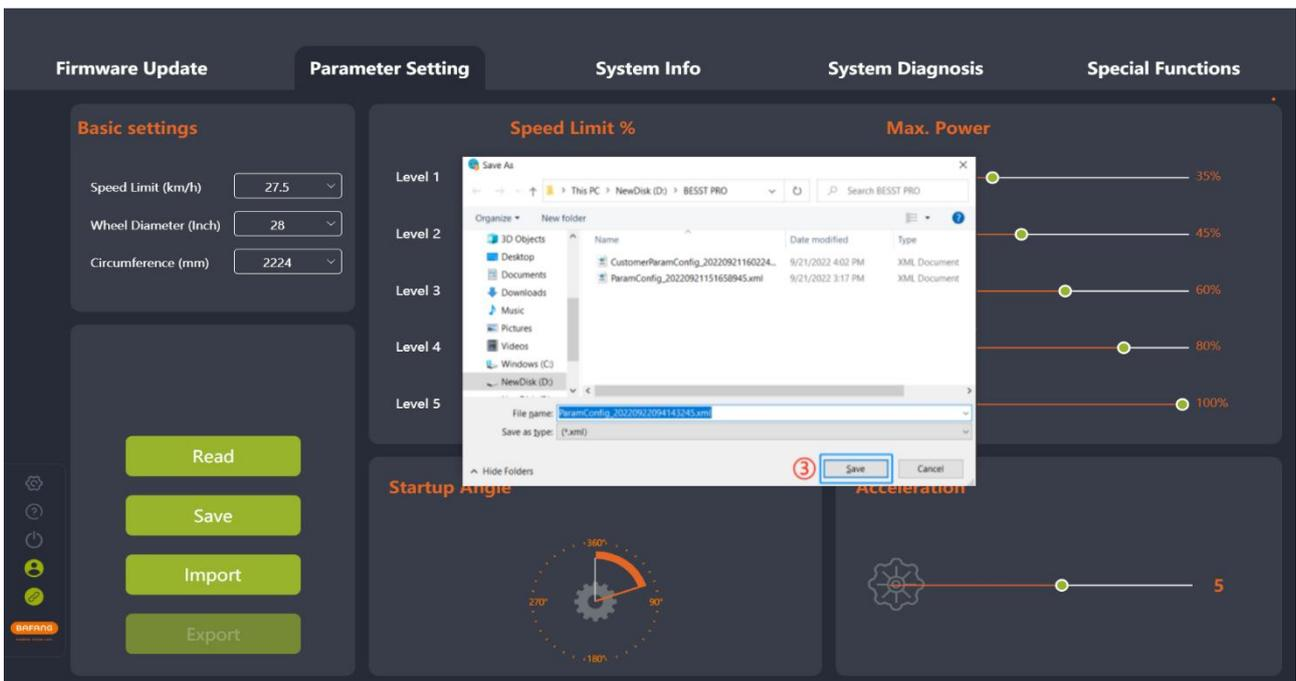

Fig. 5-10 Export
- (2) Export the configuration information on the parameter interface and the controller hardware version (for importing and verification) to a file and save it locally. The path can be chosen independently and the file name can be edited, e.g. ParamConfig_20220922094143245.xml (Fig. 5-10).